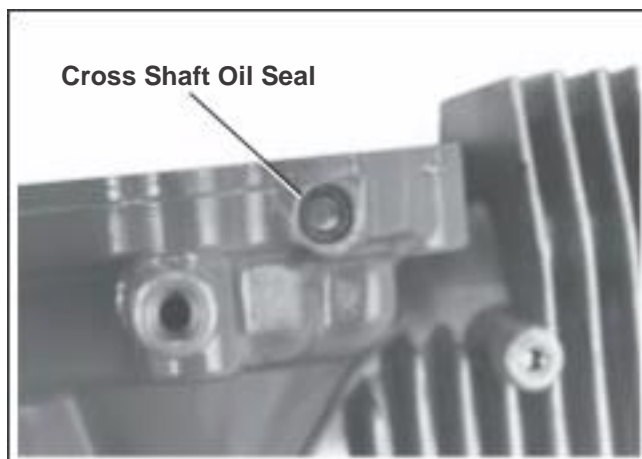

Figure 9-55. Removing Cross Shaft Oil Seal.
3. Remove the governor cross shaft oil seal from the crankcase. See Figure 9-55.